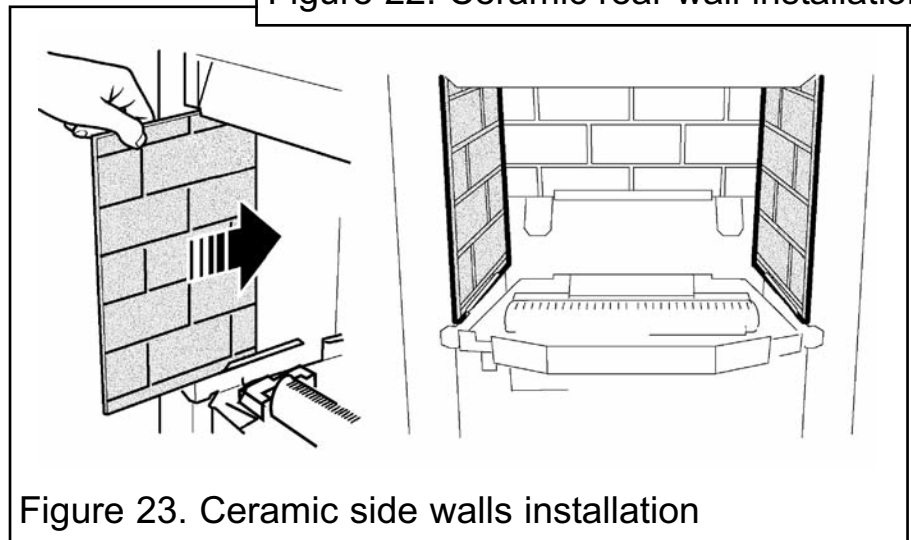

Figure 23. Ceramic side walls installation
2. Fit the ceramic side walls against the side faces of the burner compartment. The bottom edges of the walls should rest in the ledges at the sides of the firebox. Slide them in from the front and ensure that they touch the rear wall. Be careful not to damage the edges of the side walls (See figure 23).